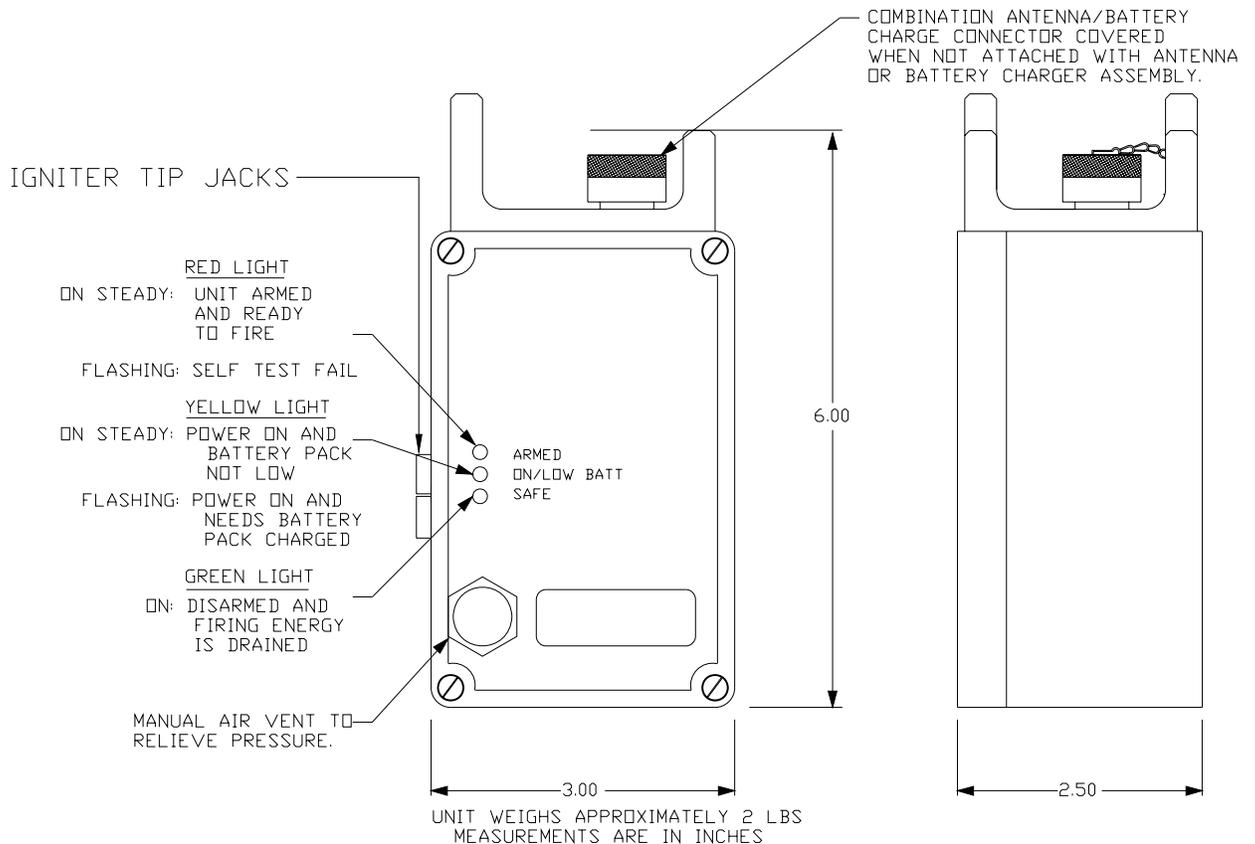

Figure 2-4 Radio Shock Tube Initiator (RSTI)
2.6.1. Figure 2-4. Shows the optional Radio Shock Tube Initiator (RSTI) that may be supplied in addition to, or in placement of the standard electric detonator Remote Units. The RSTI operates identical to the standard Remote Unit, but initiates 1/8th inch non-electric tubing instead of electric detonators. The RSTI develops 2,500V at the igniter tip jacks when firing. No voltage is present at the jacks when armed. Use caution to keep hands and bodies away from the igniter tip jacks or igniter tip when armed or firing.